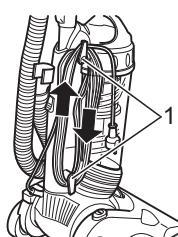

Fig.16
5. Wind the mains cable onto the cable mounts (Fig. 16/1).